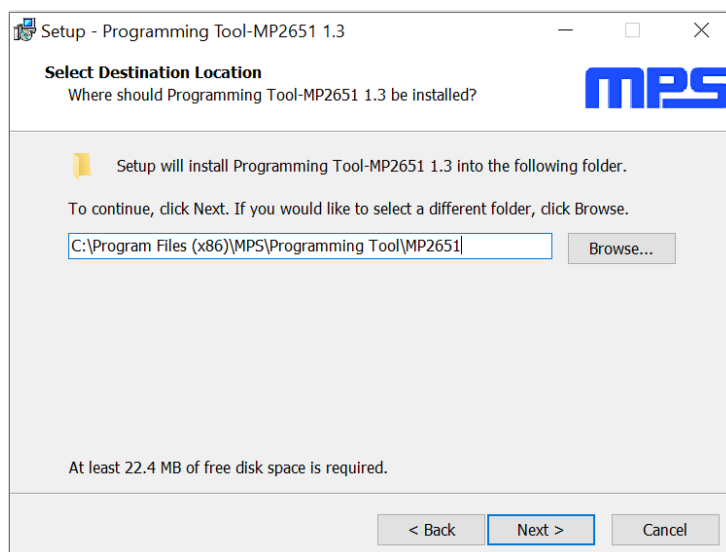

Figure 4: MPS I²C GUI Set-Up Guide
2. Double click the “.exe” file to open the set-up guide (see Figure 4). If a protection window comes up, click “More info,” then click “Run anyway.”